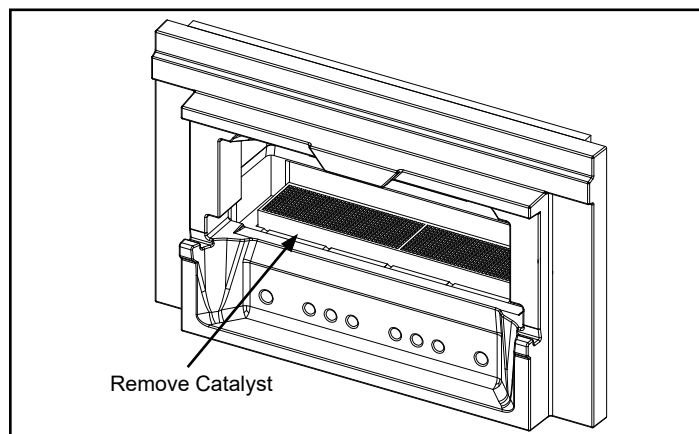

Figure 5.11 - Remove catalyst.
3. Remove the catalyst by gently picking up and pulling straight out, Figure 5.11. Place the catalyst where the catalyst's ceramic components will not be damaged.